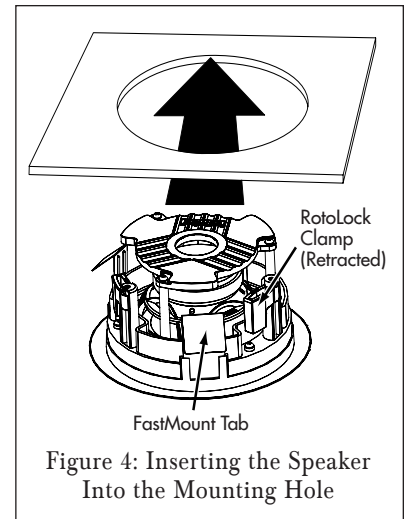

Figure 4: Inserting the Speaker Into the Mounting Hole
5. Make sure all the RotoLock clamps are in the full clockwise position so that they are tucked within the mounting hole's border. Insert the speaker into the hole in the ceiling (*Figure 4*). The RotoLock system can accommodate a maximum ceiling material thickness of 1 1/4".